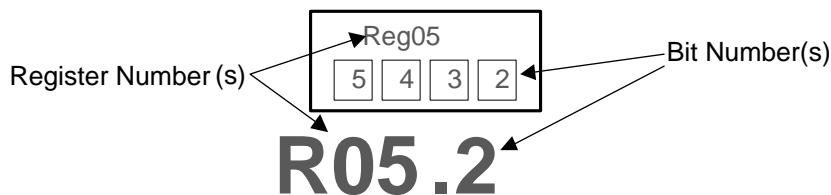

Figure 44. CDCM6208 Register Reference Format
Figure 44 shows the method this document employs to refer to an individual register bit or a grouping of register bits. If a drawing or text references an individual bit, the format is to specify the register number first and the bit number second. The CDCM6208 contains 21 registers that are 16 bits wide. The register addresses and the bit positions both begin with the number zero (0). A period separates the register address and bit address. The first bit in the register file is address 'R0.0' meaning that it is located in Register 0 and is bit position 0. The last bit in the register file is address R31.15 referring to the 16th bit of register address 31 (the 32nd register in the device